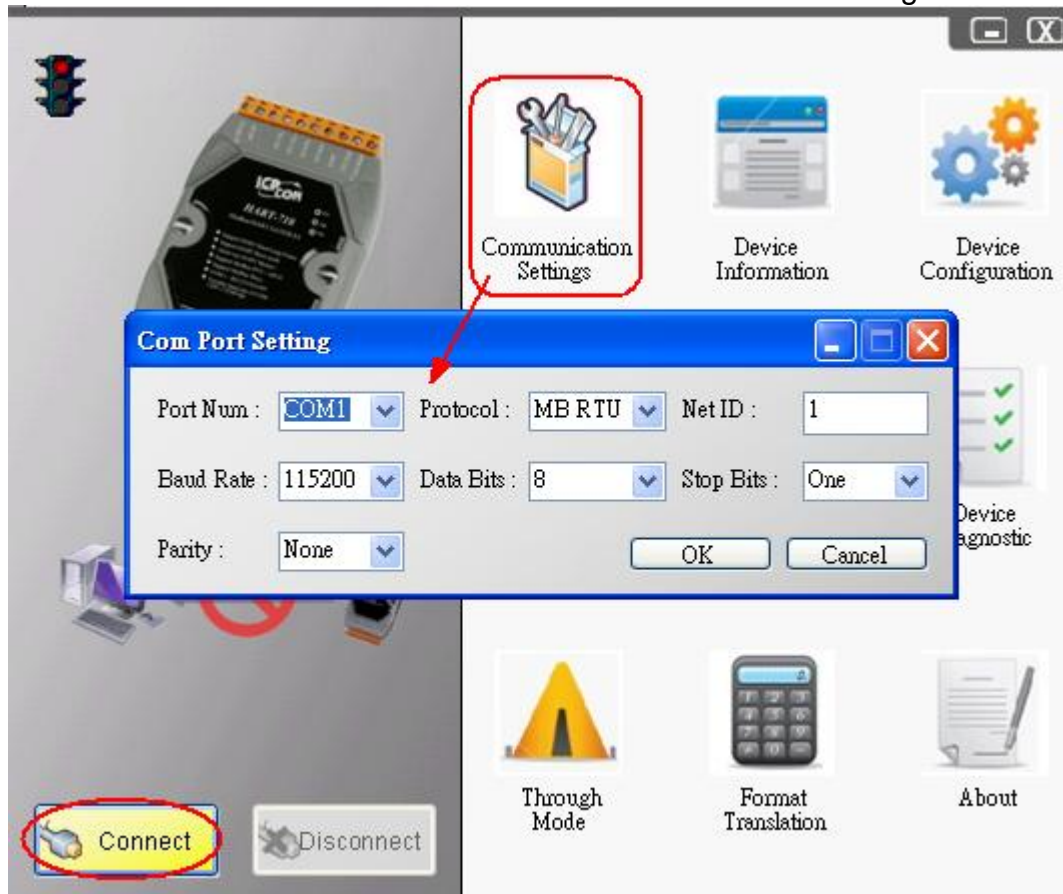

Figure 1-1 Connect to HRT-710
- (1) Set the com port parameters.
- (2) Click the “Connect” button to connect to HRT-710 module like Figure 1-1.